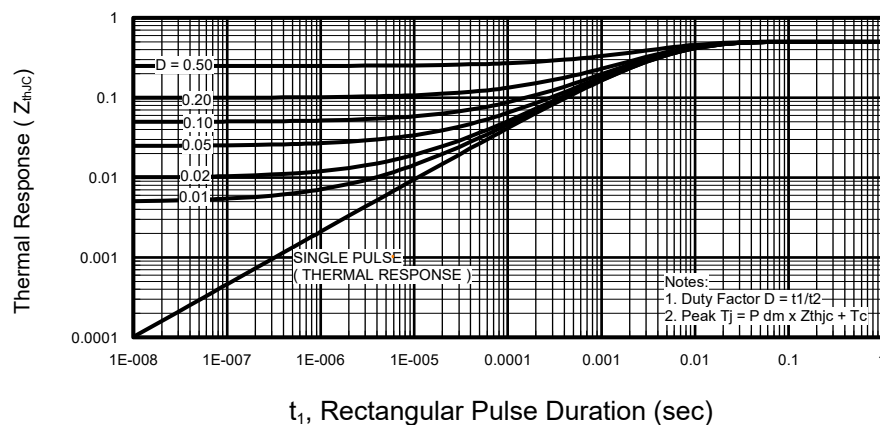

Figure 11: Maximum Effective Transient Thermal Impedance, Junction-to-Case
- ① Repetitive rating; pulse width limited by max. junction temperature.(See fig. 11).
- ② Limited by T_{Jmax} , starting $T_J=25^\circ\text{C}$, $L=0.24\text{mH}$, $R_G=25\Omega$, $I_{AS}=75\text{A}$, $V_{GS}=10\text{V}$.Part not recommended for use above this value.
- ③ $I_{SD} \leq 75\text{A}$, $di/dt \leq 220\text{A}/\mu\text{s}$, $V_{DD} \leq V_{(BR)DSS}$, $T_J \leq 175^\circ\text{C}$.
- ④ Pulse width $\leq 1\text{ms}$; duty cycle $\leq 2\%$.
- ⑤ C_{oss} eff. is a fixed capacitance that gives the same charging time as C_{oss} while V_{DS} is rising from 0 to 80% V_{DSS} .
$Z_{thJC}(D, t_{av})$ = Transient thermal resistance, see figure 11).